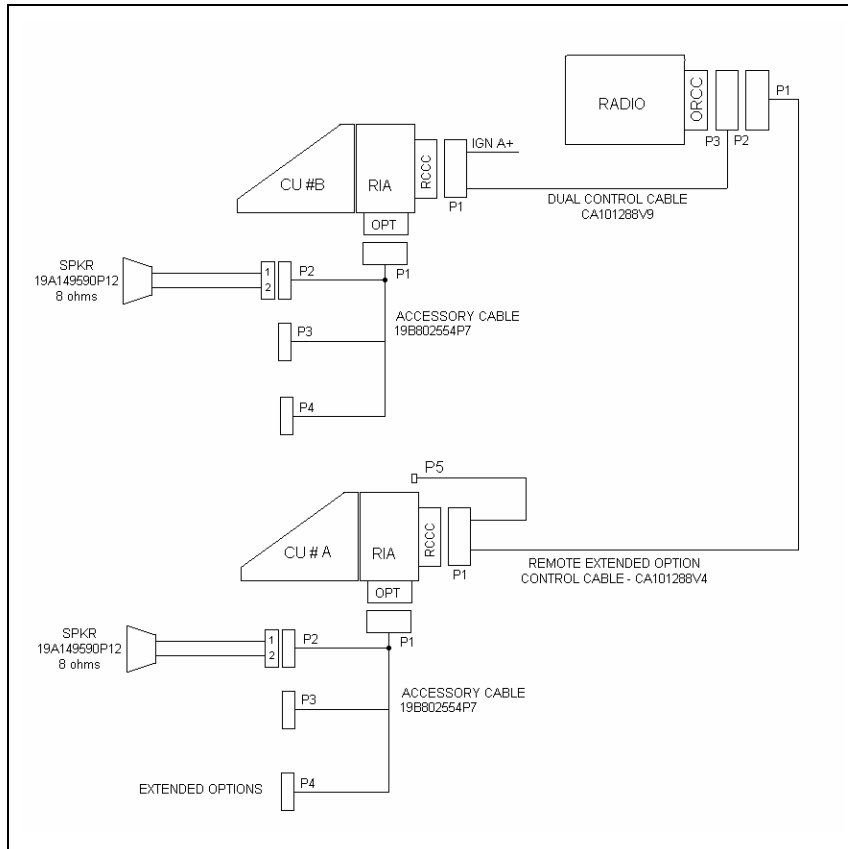

Figure 10-7: M7100^{IP} Dual Control Unit Remote/Remote Mount Installation Configuration – Parallel Audio
- Main Control Unit Speaker: Connect the lead nearest the speaker to Pin 87 of the relay. Connect the lead nearest the connector to Pin 30 of the relay. Connect connector to the accessory cable P2 (refer to Figure 10-7).
- Auxiliary Control Unit Speaker: Connect the lead nearest the speaker to Pin 87A of the relay. Connect the lead nearest the connector to Pin 30 of the relay. Connect the connector to accessory cable P2 (refer to Figure 10-7).
13. For Each Relay: Connect a #18 AWG black wire between the relay, Pin 85 and accessory cable P3-1 (labeled “OUT2” on schematic diagrams in the maintenance manual). Use a 1/4” tab receptacle on the relay side and a mating Molex connector and pins on the accessory cable side. Connect the mating Molex connector to the accessory cable P3 when finished (refer to Figure 10-7).
14. For Each Relay: Connect one end of a #18 AWG red wire to the relay, Pin 86. Cut the lead to length, and connect the other end to the 1 amp fuse holder supplied. Use crimp on connectors supplied. Connect the other side of the 1 amp fuse holder to the A+ battery source or a vehicle A+ fuse block. Use a #18 AWG red wire and a ring lug supplied, if needed (refer to Figure 10-7).